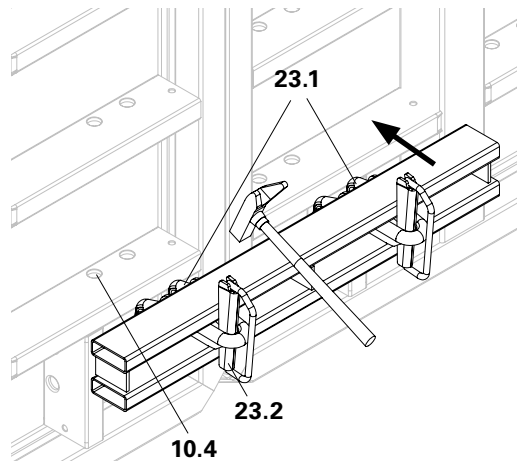

Fig. A4.06
2. Securely fix the Wedges (23.2). (Fig. A4.06)